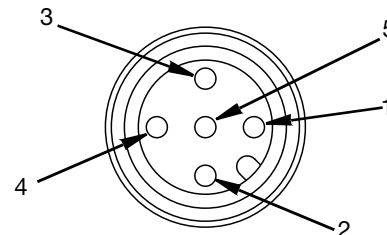

FIG. 25
f. The Voltex Valve Integration Cable, 124416, will need to be connected to the non-Graco dispensing equipment or PLC. See FIG. 25.